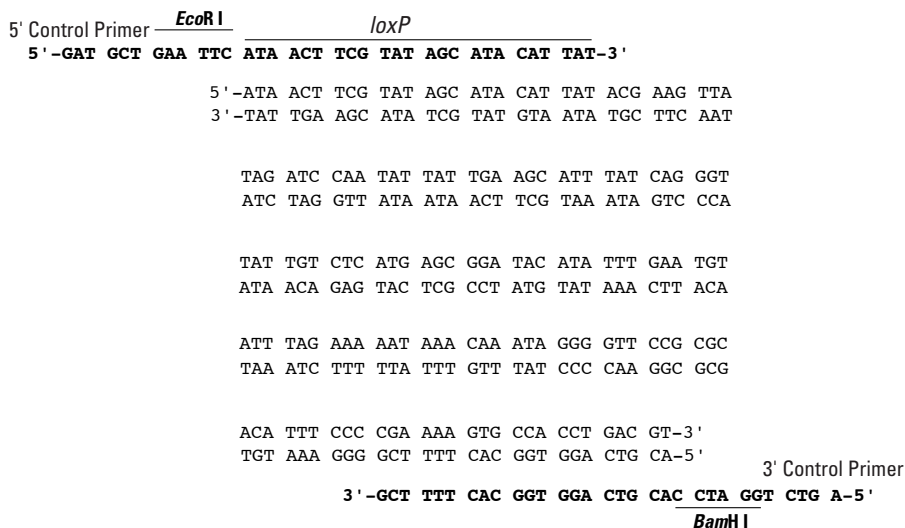

Figure 4. Sequence map of the *loxP*-Promoter Cassette. The map is shown in frame with the *loxP* site. The Control Primer sequences are shown in bold.
1. For the most reliable PCR results, we recommend that you design your primers based on the sequence of the Control Primers, changing only the non-annealing restriction site portion. By using the control primers as the basis for your amplification primers, you eliminate the need to optimize PCR conditions for your primers. The sequence of the Control Primers and *loxP*-Promoter Cassette are shown in Figure 4. The sequence of the entire *loxP*-Promoter Template is also available at **www.clontech.com**.
2. If you plan to construct an acceptor vector for expressing an introduced gene as a fusion protein, design your cloning strategy so that the upstream coding sequence in your expression vector will be in frame with the *loxP* site of the *loxP*-Promoter Cassette. The first codon of the *loxP* site is represented by the first three bases following the *EcoR* I site in the 5' Control Primer sequence (see Figure 4).